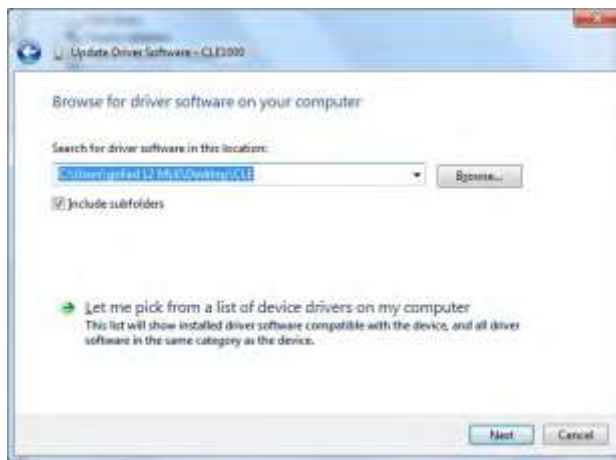

FIGURE 48. UPDATE DRIVER WINDOW
- b) Select **Browse My Computer for Driver** from Windows dialog. See Figure 48.